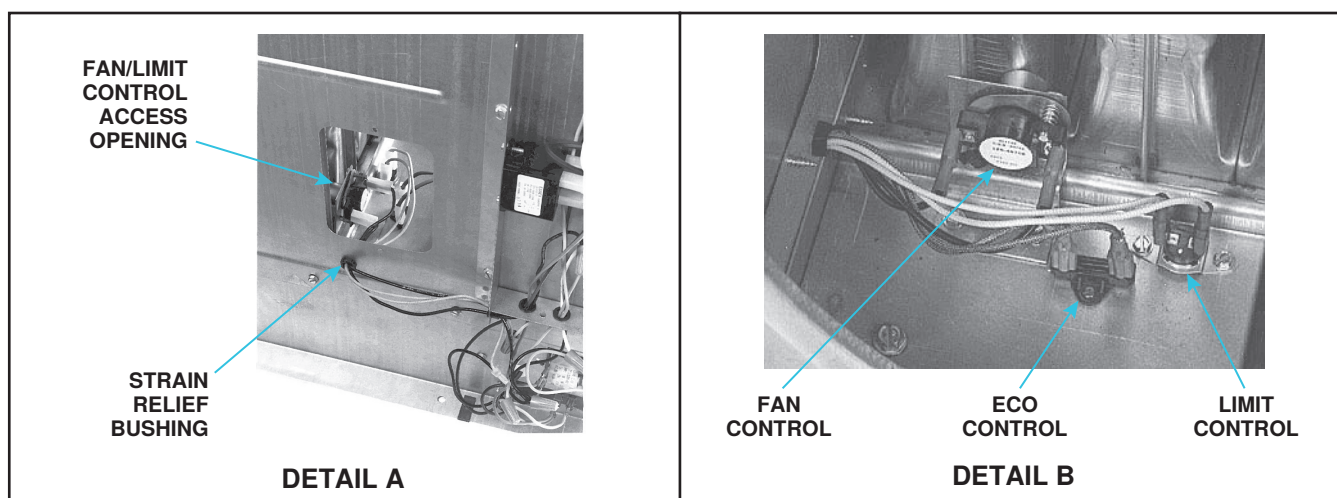

Figure 44. ECO Control and Fan/Limit Control Wiring
- (1) Remove strain relief bushing from rear fan panel.
- (2) Remove outer left side panel—when facing rear of unit—and fan/limit control access panel.
- (3) Reach into fan/limit control access opening (see Figure 44, DETAIL A) and pull both red wires completely through fan panel into where ECO control is located.
- (4) One red ECO control wire is used but other must be replaced. Carefully disconnect and discard one wire from ECO control. Connect straight insulated terminal of red ECO wire from kit to ECO control.
- (5) Route both red wires from ECO control along with existing fan/limit control wires (see Figure 44, DETAIL B) through strain relief bushing and tighten bushing.
- (6) Connect 90-degree insulated terminal of red ECO wire from kit to transformer—if transformer was replaced, connect wire to 24V side where blue wire had been connected to existing transformer—if transformer was not replaced, disconnect blue wire to connect red ECO wire from kit.
- (7) At terminal strip next to transformer, disconnect and discard blue wire and connect existing red wire from ECO control at same terminal.
- (8) Re-install fan/limit control access panel.